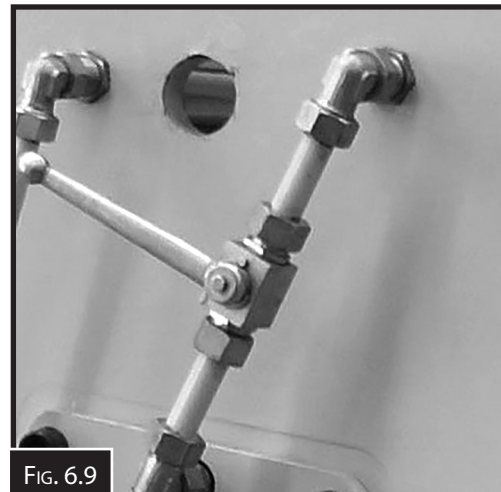

FIG. 6.9
- Depress the foot pedal and move the blade to the maximum down stroke position then shut off the ball valve in Fig 6.9 to hold the down stroke position.